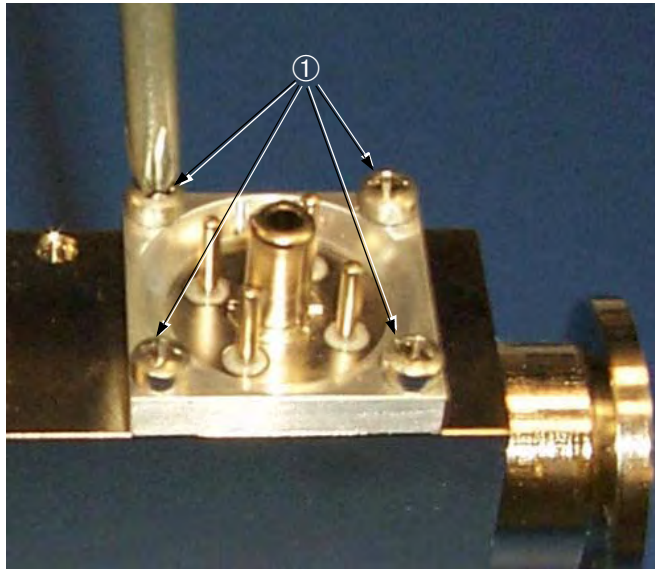

Figure 4-9 Button TC Assembly
1. Remove the 4 Phillips screws ① that hold the Button TC header (Figure 4-9).
5. Remove the 4 Phillips screws that secure the ion source header (Figure 4-9 on page 4-11).